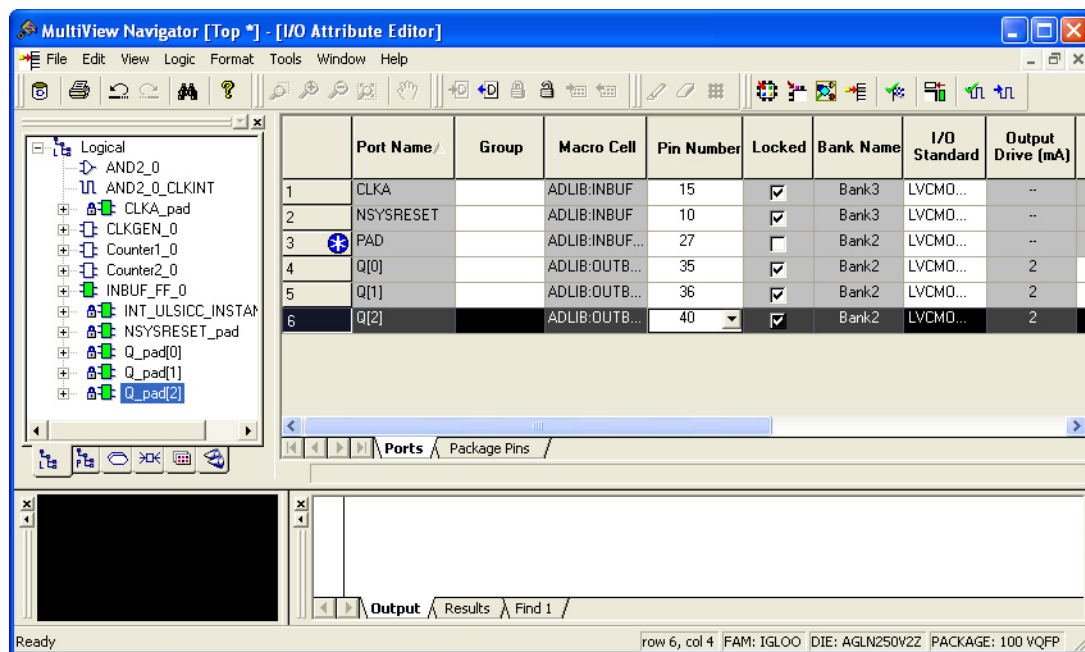

Figure 1-35 • I/O Attribute Editor with Pin Assignments for the IGLOO Starter Kit
10. To make a pin assignment, select the pin number for each port from the pull-down menu (Figure 1-35).